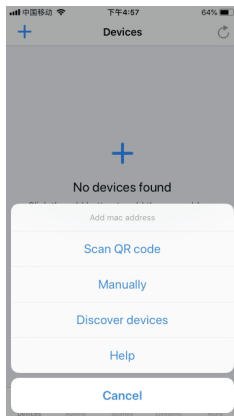
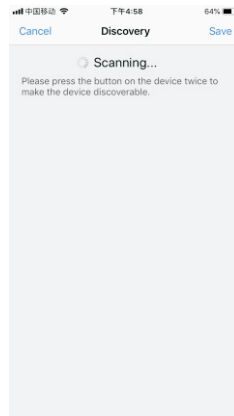

Figure 4
Figure 5
4. Run Easythings APP, tap add button " + " on the APP to add device, then choose "Discover devices" to discover device, then **short press the "K2" button on the curtain motor controller twice (or reset power of the controller twice continuously)** to set the device into pairing to APP mode. (As shown in **Figure 3 & Figure 4 & Figure 5**)